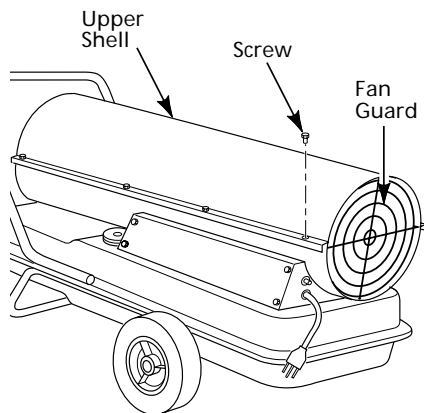
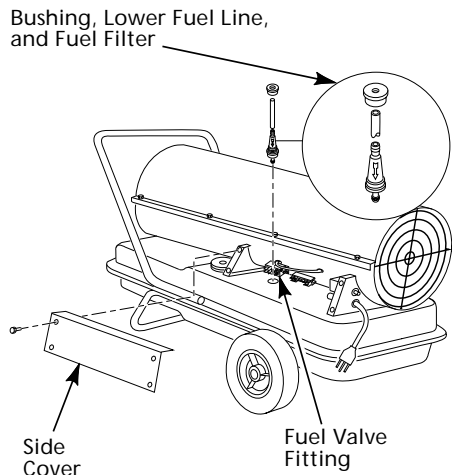

Figure 6 - Upper Shell Removal
Figure 11 - Fuel Filter Removal
1. Remove screws along each side and top of heater using 5/16" nut-driver. These screws attach upper and lower shells together (See Figure 6).
1. Remove upper shell (See Figure 6).
2. Remove side cover (See Figure 11).
1. Remove side cover (See Figure 11), fan guard, and upper shell (See Figure 6, page 6) screws using 5/16" nut-driver.
1. Remove upper shell (See Figure 6, page 6).